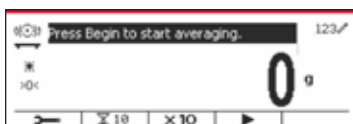

Figure 83
2. Once the value keyed in is displayed in upper left portion of the screen, press the softkey corresponding to the  icon. (See Figure 83)